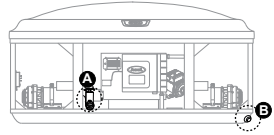

Figure 13.2e
3. Locate one of the two drains that you would like to use, Figure 13.2e. Either the Quick Drain (A) or the 3/4" drain valve (B). Once you choose a draining method, follow the procedures for that method.